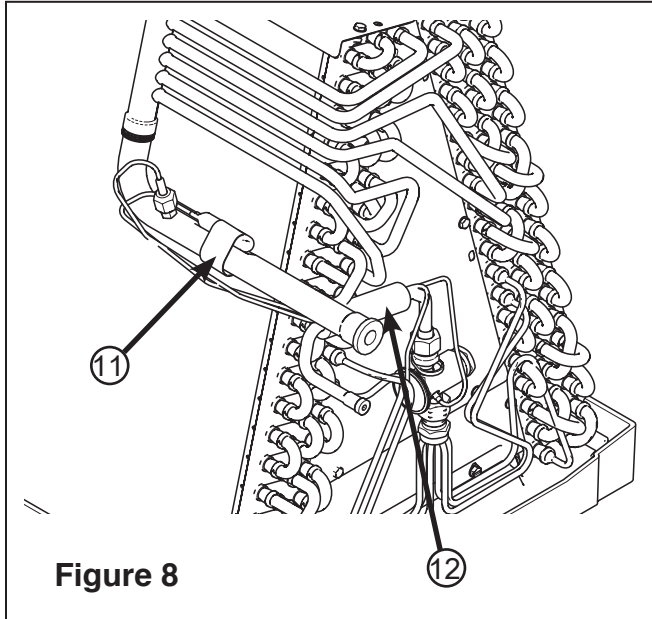

Figure 8
12. Loosely wrap the liquid line, bulb line, and equalizer line together with insulation (Figures 8 and 9). Ensure that installed insulation prevents any copper lines from touching aluminum tubes, to prevent leaks due to corrosion.